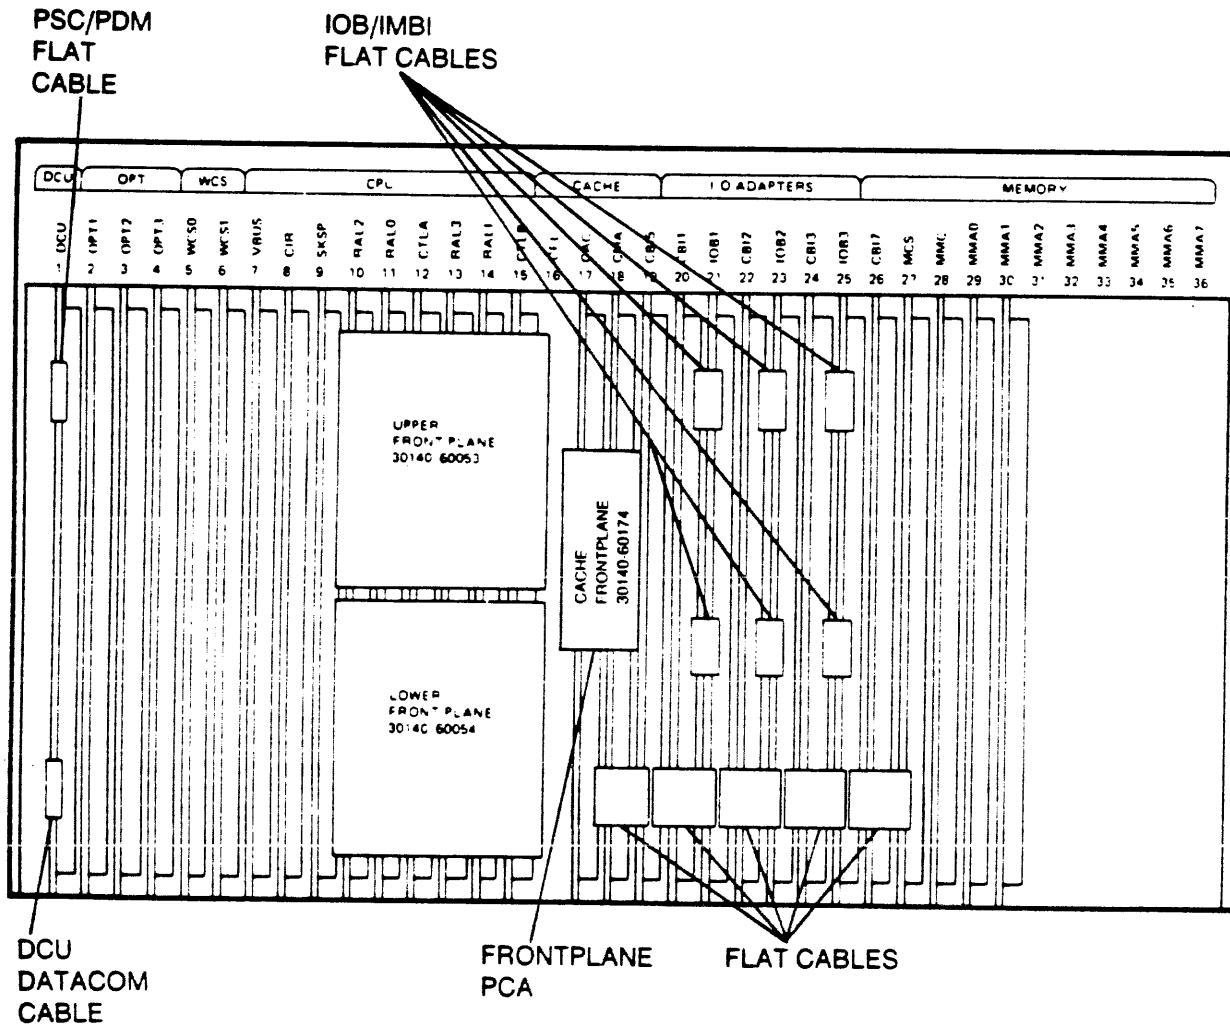

Figure 1-3. CPU Card Cage Assignment, Rear View.
3. Disconnect the three-connector flat ribbon cable (P/N 30140-60029) that connects the J5 edge connectors of CAC, CMA, and CBI5 PCAs. (See Figure 1-3 for illustration of CAC, CMA, and CBI5 PCA location.) Discard this three-connector flat ribbon cable.
4. Remove the CAC PCA (P/N 30140-60009 or P/N 30140-69009) from slot 17 and the CMA PCA (P/N 30140-60010 or P/N 30140-69010) from slot 18 of CPU card cage. (See Figure 1-3.)
5. Insert the new CACX PCA (P/N 30140-60172) into slot 17 and the new CMAX PCA (P/N 30140-60173) into slot 18 of CPU card cage. (See Figure 1-3.)
6. Connect the two-connector flat ribbon cable (P/N 30140-60028) to the J5 edge connectors of CMAX and CBI5 PCAs. (See Figure 1-3.)
7. Connect Cache Frontplane PCA (P/N 30140-60174) to the J4 edge connectors of CACX and CMAX PCAs. (See Figure 1-3.)